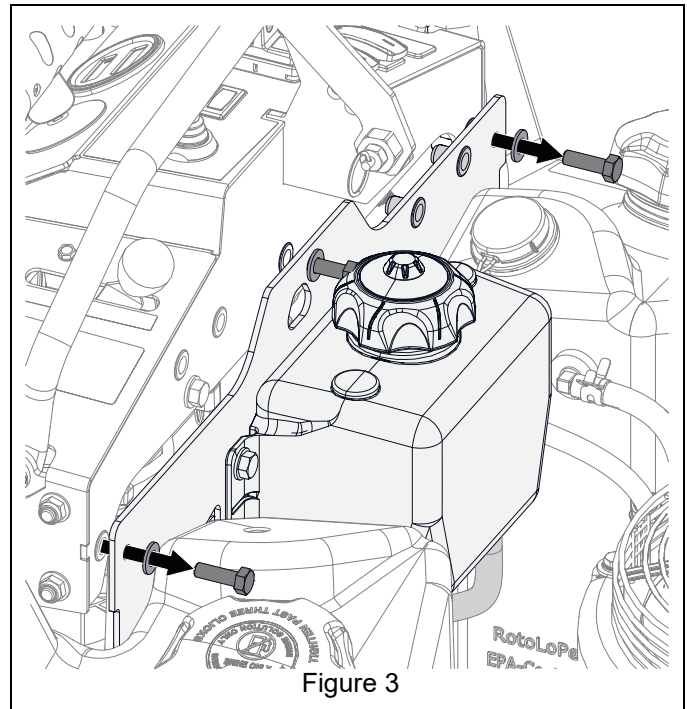

Figure 3
1. Remove fasteners retaining front access plate and temporarily move to the side to increase access to brine tank fasteners. See Figure 3.